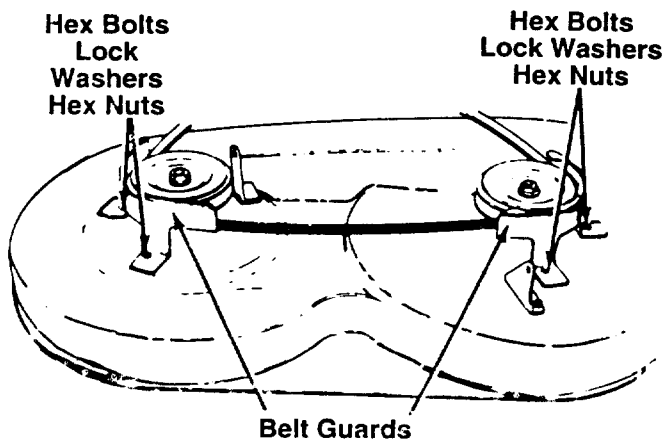

FIGURE 19.
7. Remove the belt guards at each deck pulley by removing the hex bolts, lock washers and hex nuts. See figure 19.